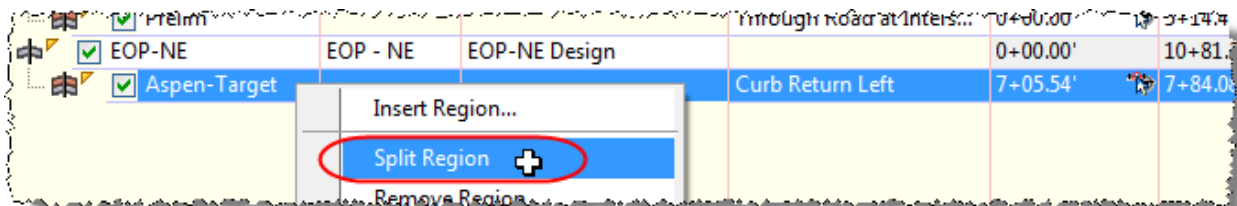

Figure 32
51. Right-click on the region and select **Split Region** (Figure 32).